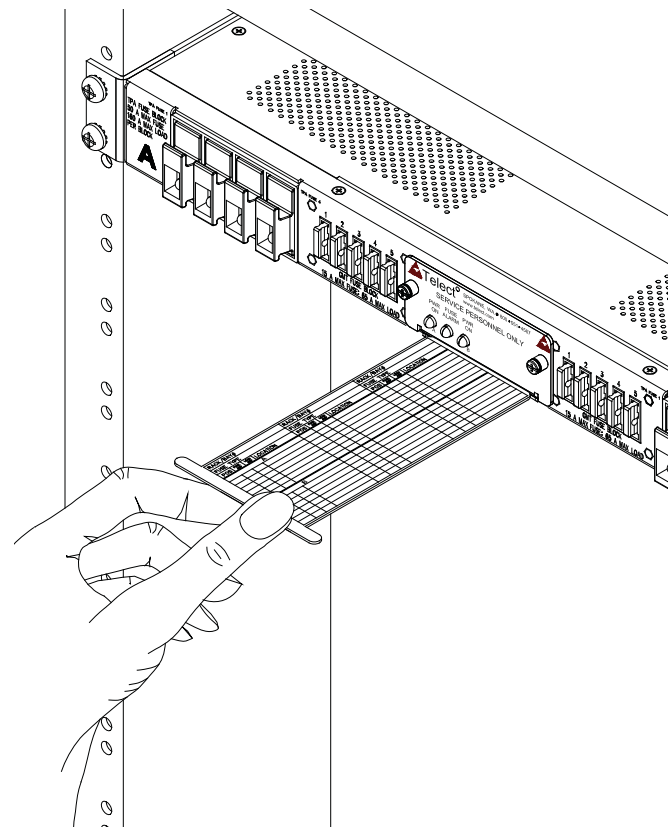

Figure 13 - Designation Card
39. Record TPA and GMT output destinations on the pull-out designation card below the front panel LEDs, as shown in Figure 13.